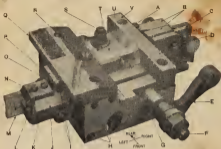

FIGURE 1.
4. Mold Screws. If the MOLD has the two diagonal holes in the BASE PLATE (one shown above letter H, Fig. 1) use the extra long MOLD SCREW a50E1, furnished with this MOLD, in the right-hand hole near the water holes and use two of the standard MOLD SCREWS a50E in the other two holes. For MOLDS not having these diagonal holes use the three standard MOLD SCREWS a50E and omit this extra long SCREW. Never use this extra long SCREW in any TYPE MOLDS as it would bottom in the MOLD and force the BLOCKS out of position.
5. Lubrication. Use "Rule Mold Oil" (order by name). In case of emergency mutton tallow or castor oil (lubricating or medicinal) may be used but we do not recommend their continued use. Standard MEXORTEX oil such as is used on other MOLDS and CASTING MACHINE parts will not work on this MOLD. Keep the OIL HOLE (R) in the left TIE BAR (Q) over the MOLD BLADE (M) constantly filled with one of these lubricants; also put a little on the end of the OPERATING BAR where it joins the MOLD BLADE (M) and on the end of the CLAMPING SCREW (F) where it
28. Pull out the MOLD BLADE (M). With the MOLD standing on its front side, with the left end toward you, put in the VENT PUSHER with the sharp edge up and the lug on the end toward you.
30. Put on the upper MOLD-BLADE STOP (N) with its two SCREWS, and also the MOLD-BLADE STOP (L).
31. Put on the two TIE BARS (Q and V) and bring them toward each other so that the SHIELD (G) will just slide easily into place between them.
32. Put on the desired MATRIX (U); MATRIX CLAMP (T); MATRIX-CLAMP SCREW (S); SHIELD (G).
33. FRICTION BLOCK: This does not need to be taken off when cleaning the MOLD, but if required it can be taken apart and reassembled as follows: Remove the two SCREWS holding the TRIMMER, shown just to the left of SCREW (D) in Fig. 1, and take off the TRIMMER and its PACKING PLATE. Hold the CLAMP (C) to the rear and remove the SCREW (D) with its WASHER; then remove the CLAMP (C) and its SPRING. Remove the two SCREWS (A) and take off the FRICTION BLOCK (B). To replace the FRICTION BLOCK proceed as follows: Insert a piece of lead or rule (cast by this MOLD) into the opening from which it was ejected and push it in until it touches the end of the MOLD BLADE, which can be told by seeing that moving the MOLD BLADE moves the lead or rule. Turn the LEVER (E) over until the lead or rule just inserted is clamped tightly. Press the FRICTION BLOCK (B) against its two bearing surfaces and slide it forward until it touches the lead or rule which is projecting from the MOLD; then insert and set up very tight its two SCREWS (A). Remove the piece of lead or rule from the MOLD, insert the SPRING behind the CLAMP (C), put this CLAMP (C) in position and hold it to the rear while inserting and tightening the RELEASE SCREW (D). Be sure the WASHER is on the SCREW (D). Put in position the TRIMMER with its P-
ING PLATE and insert and tightens its two SCREWS shown just to the left of the SCREW (D) in Fig. 1. Be sure the PACKING PLATE is inserted right side up so that its upper edge comes about flush with the top of the FRICTION BLOCK. Back off the RELEASE SCREW (D) until it is just free. On some of the earlier MOLDS there was a SHOULDER under the CLAMP (C), but the method of taking apart and putting together is the same as in the preceding. Some of the earlier MOLDS had an ADJUSTING SCREW in the rear of the FRICTION BLOCK instead of the RELEASE SCREW (D). This ADJUSTING SCREW is adjusted by screwing it in until the shoulder on it comes flush with the rear face of the FRICTION BLOCK (B).
34. Screw in to bearing the CLAMP SCREW (F), turning it by the LEVER (E). For directions for adjusting this CLAMP SCREW see ¶16. Be sure a piece of the product is left in the MOLD.